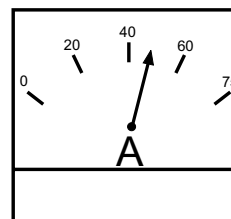

Figure 50. Ammeter (Load)
14. Observe at the generator's ammeter (Figure 50) and verify that it reads the anticipated amount of current with respect to the load. The ammeter will only display a current reading if the load is in use.